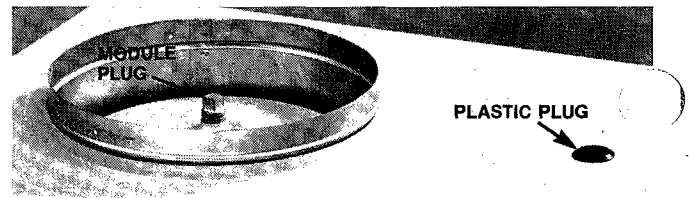

FIG. 10
2. Remove plastic plug from top of cabinet. Fig. 10.